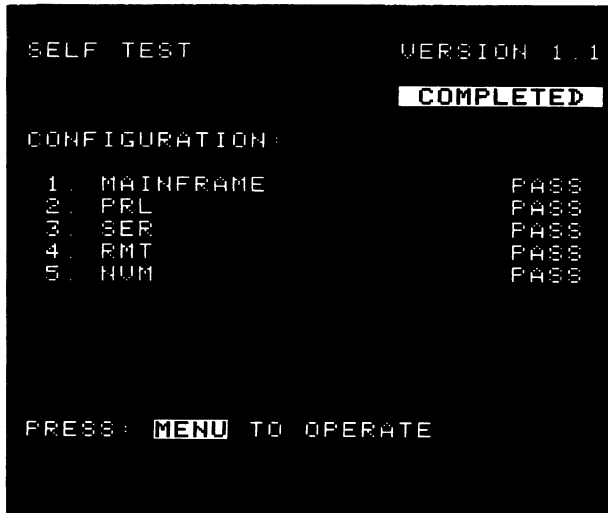

Figure 5-35. 338 successful power-up diagnostics display. ^{4433.03}
2. Approximately seven seconds after power is turned on the screen display is initialized. Check to insure that FAIL is not displayed in any of the test fields. Refer to Figure 5-35.